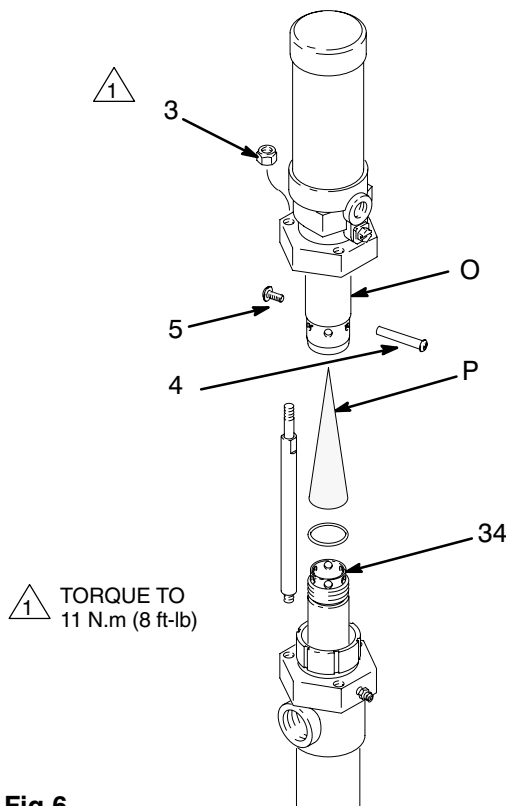

Fig 6
**NOTE:** Removing the muffler (P, Fig 6) will increase both the pump flow rate and the exhaust noise and will reduce icing.
Unscrew the tie rod locknuts (3), remove the screw (5) and barrel (4) set and lift the air motor. Unscrew the rod (34). See Fig 6.
Use lithium base grease on the threads of the rod (34). Insert the muffler (P) as shown. Hand tighten the rod (34) into the air motor connecting rod. Install the screw and barrel set (4 and 5). Lubricate the tie rod threads. To ensure alignment, thread the tie rod locknuts (3) loosely onto the tie rods, then torque evenly to 11 N.m (8 ft-lb). See Fig 6.